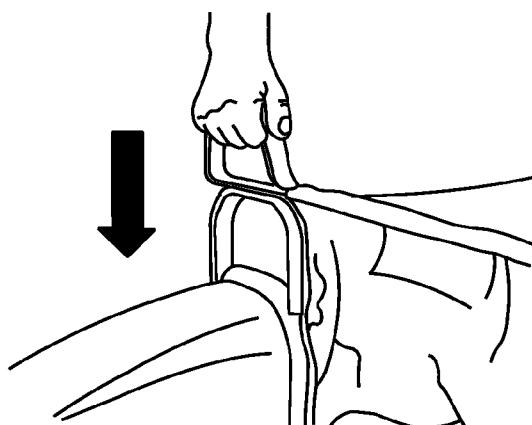

**Figure 41**
1. Remove knob and bolt securing left side upper and lower handle sections (Fig. 41).
1. With the engine off, remove bag from rear bag hanger. Remove bolt(s) and knob(s) securing hanger clamps to handle sections (Fig. 41). Hanger clamps have four adjustment holes.